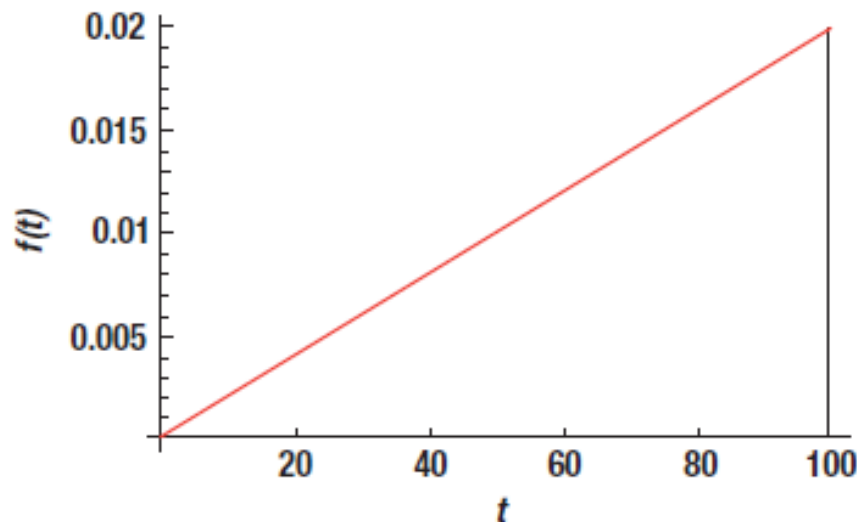

Figure 1C
- 1C. A product has a maximum life of 100 hours, and its probability density function is given by a triangular distribution as shown in the figure 1C. Develop the probability density function, cumulative distribution function, reliability function and MTTF for this product.